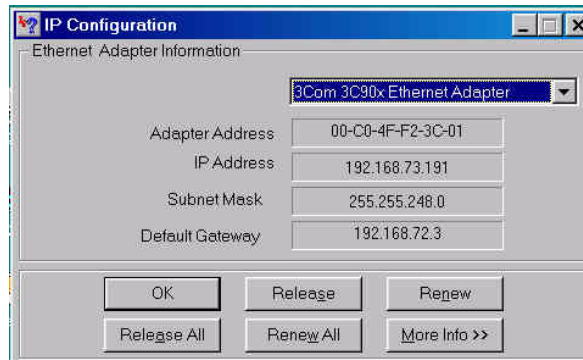

Figure 10 Verifying IP Address
3. Type **winipcfg.exe**. A window similar to the example in Figure 10 appears.